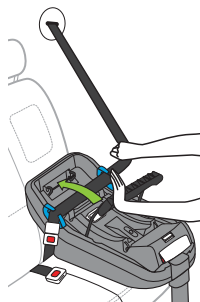

Figure 61b
- While holding the shoulder belt with one hand, use the other hand to rotate the Belt Tensioner toward the back of the vehicle until it holds the vehicle belt in tension as shown in **Figure 61b**. Use both hands to push down firmly to lock the Belt Tensioner.